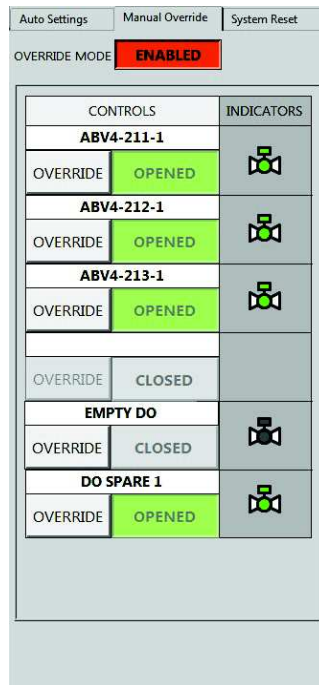

Figure 22: Enabling Manual Override
1. Navigate to the Manual Override tab of the plant controls and click OVERRIDE MODE – ENABLED. This will enable the CONTROLS buttons as shown in Figure 22.